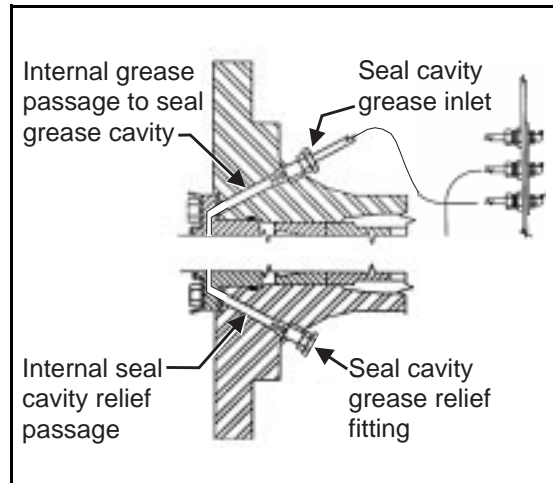

FIGURE 4 (MSSM0273AE) — Internal Seal Cavity Grease Passage and Relief
3. Remove the seal cavity grease relief fitting (if so equipped) to prevent the mineral spirits and contaminated grease from being pushed back into the shell under the first water seal. FIGURE 4 shows the internal passage from the seal cavity grease inlet to the seal grease cavity and the internal seal cavity relief passage from the seal grease cavity to the seal cavity grease relief fitting (if so equipped) on the housing.